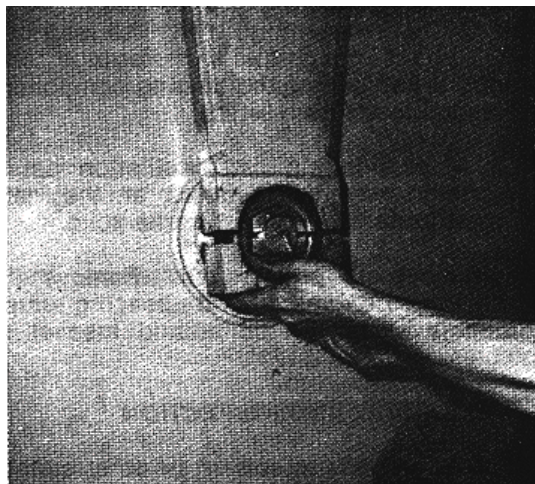

FIGURE 9-113.
d. Install each cap on the original side it was removed from. Be sure groove (larger I. D.) is to the outside (see figure 9-113).